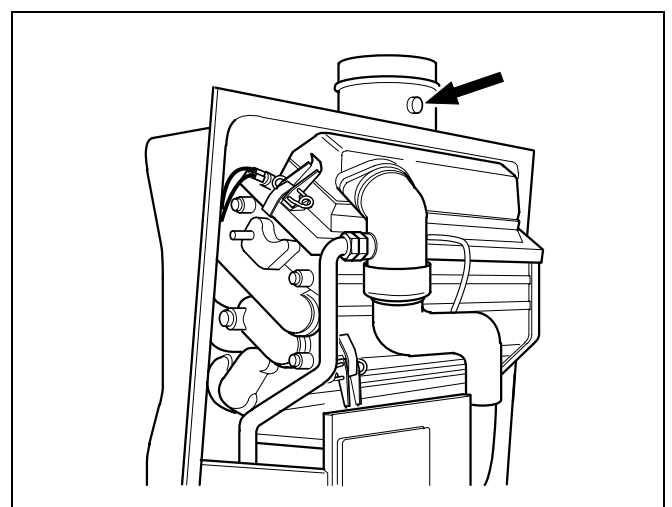

fig. 40 Flue gas measuring point
- Measure and record the CO2 content on the flue gas measuring point (fig. 40).
Measuring point see fig. 40 on page 29.